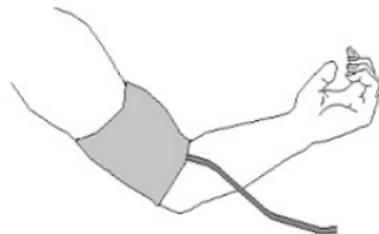

Figure 2.5 Cuff position
1. When putting on the cuff, spread the cuff and wrap it around the upper arm evenly to appropriate tightness. The correct cuff position refers to figure 2.5.